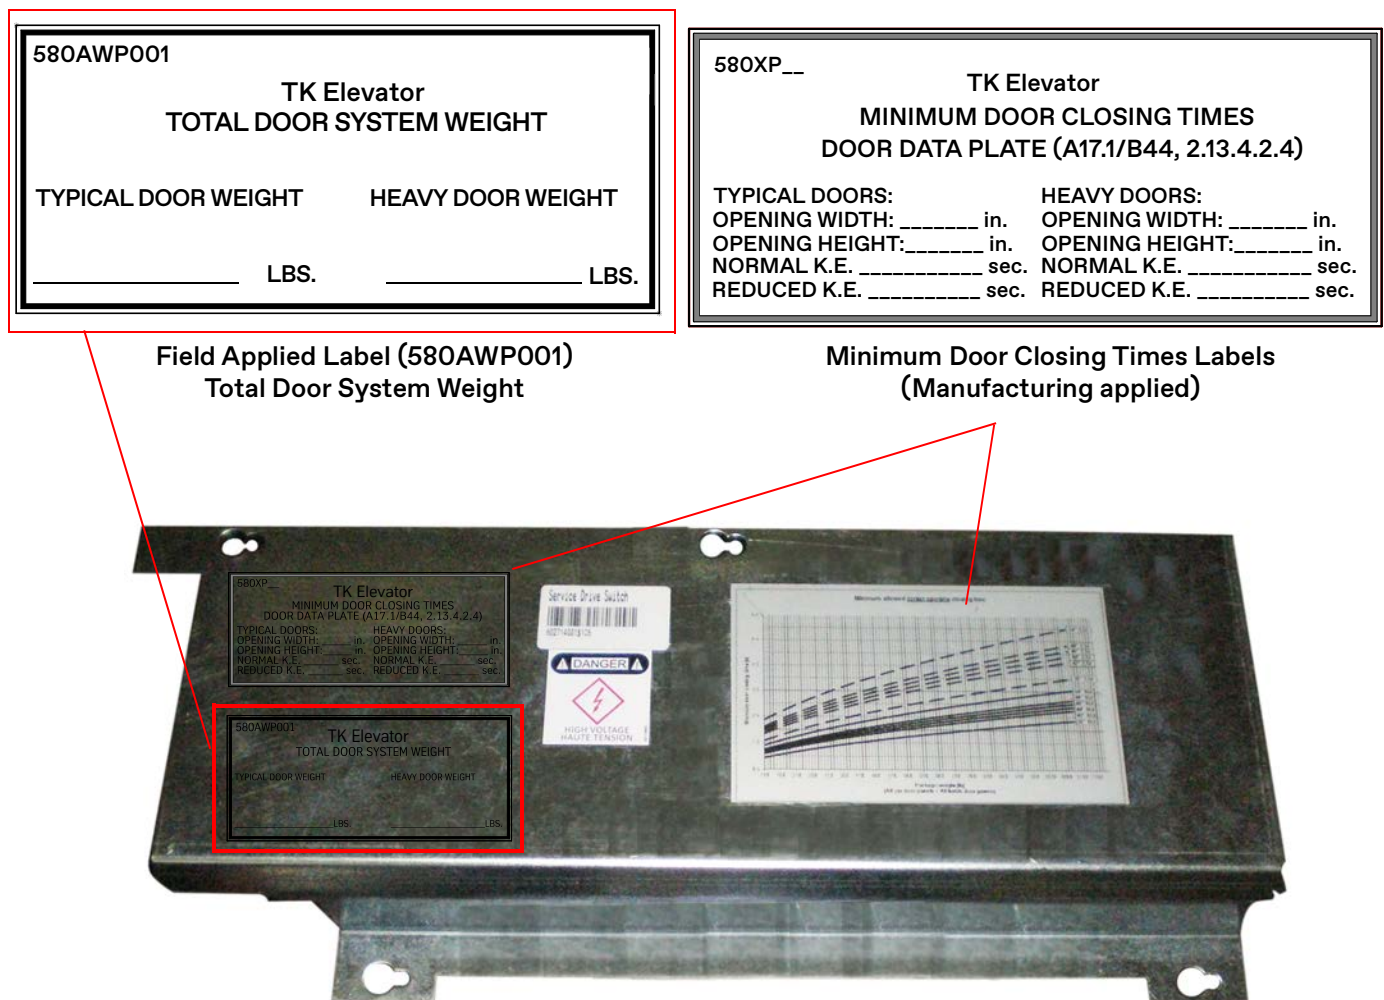

Figure 61 - Door Labels
2. Add the weight of the car doors and the weight of the hoistway doors, and enter this number as the typical door weight on the Total Door System Weight label (580AWP001). See Figure 61.
3. Install the Total Door System Weight label (580AWP001) per Figure 61.